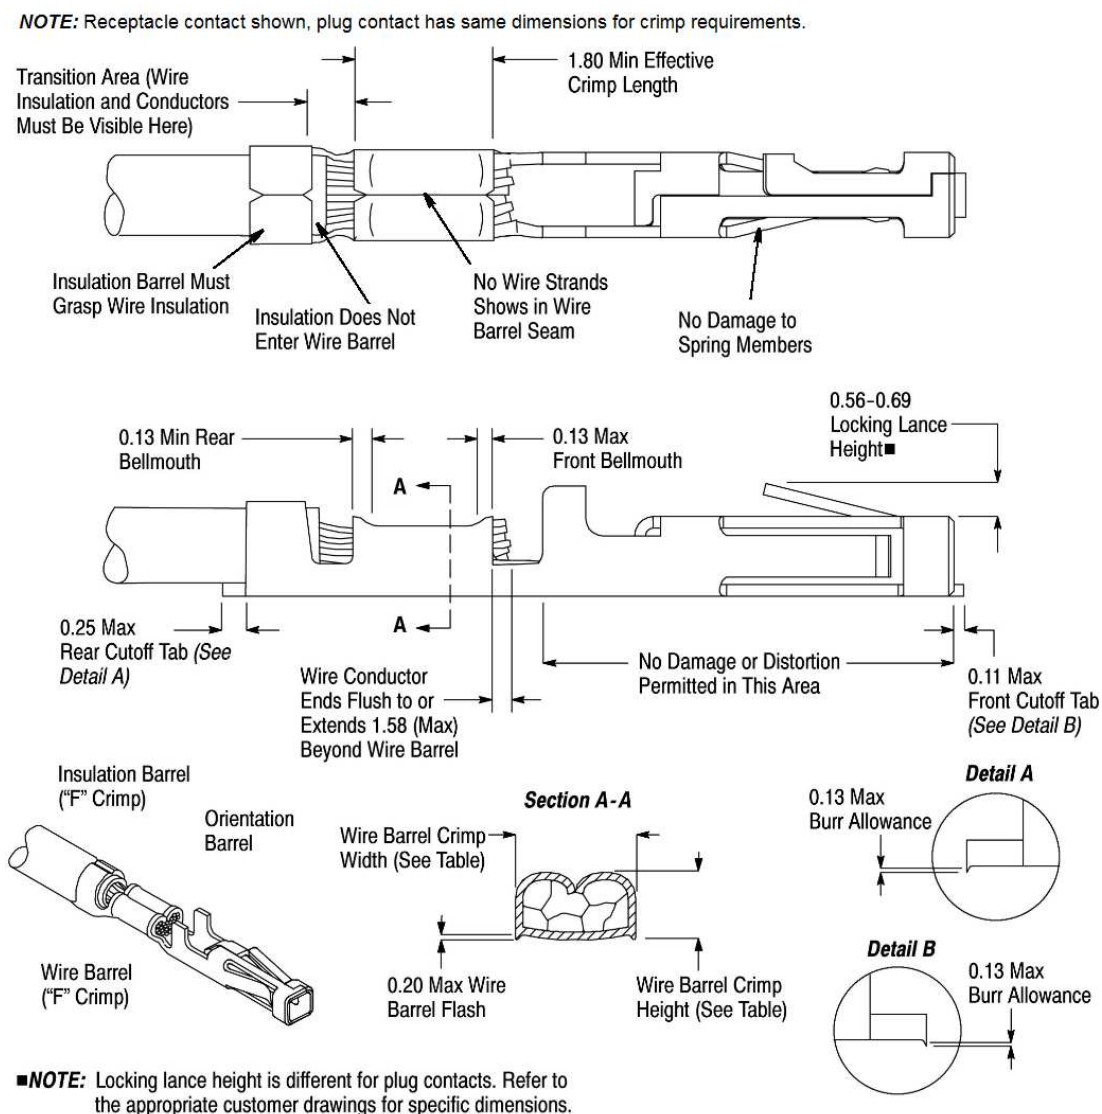

Figure 4
1. The front cutoff tab must not extend beyond the contact box and the rear cutoff tab must not extend beyond the insulation barrel more than the limits shown in Figure 4.
2. The burr resulting from the cutoff tab shearing must not exceed the dimension shown in Figure 4.
The height of the locking lances must be within the specified limits shown in Figure 4.
There must be no damage or distortion to the spring members of the receptacle contacts or the pin end of the plug contact. See Figure 4.
There must be no damage or distortion to the orientation barrel. See Figure 4.
The crimp applied to the wire barrel portion of the contact is the most compressed area and is most critical in ensuring optimum electrical and mechanical performance of the crimped contact. The wire barrel must be crimped in the "F" crimp where the tips of the wire barrel turn inward and capture the wire strands. The wire barrel crimp height and width must be within the dimensions provided in Figure 4.
Effective crimp length is defined as that portion of the wire barrel, excluding bellmouths, fully formed by the crimping tool. For optimum crimp effectiveness, the crimp must be within the limits shown in Figure 4.
The seam between the two sides of the wire barrel must be completely closed and there must be no evidence of loose wire strands or wire strands visible in the seam. Refer to Figure 4.
The front and rear bellmouths caused by extrusion of the contact material during crimping must be within the limits shown in Figure 4.
Wire barrel flash is the formation that may appear on both sides of the wire barrel as the result of crimping. It must not exceed the dimension provided in Figure 4.
The seam between the two sides of the insulation barrel must be completely closed and grasp the wire insulation. Refer to Figure 4.
The wire insulation and conductor must be visible within the transition area (between the contact insulation barrel and wire barrel). The insulation must not enter the wire barrel. The wire conductor ends be flush to or extend slightly beyond the wire barrel to the limit provided in Figure 4.